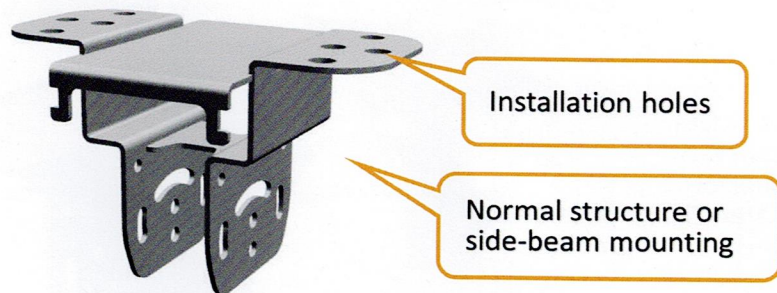

Figure. 1.1
① Drill holes on the ceiling or on the side of the crossbeam. The position of the drill holes must fit the installation holes of the upper mount. Use a  $\phi 12\text{mm}$  drill bit to reach a depth of 60-70mm, then fix 2 to 4 expansion bolts (M10\*80) on each side, and finally fix the upper mount with nuts (see Figure 1.1)